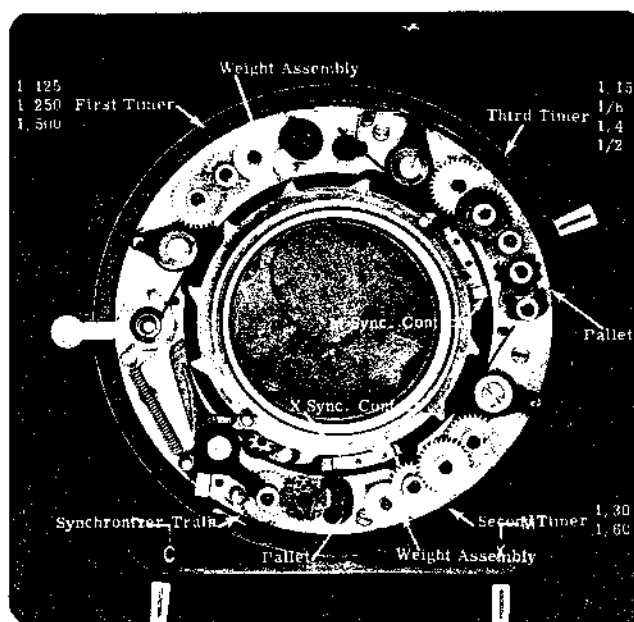

Figure 19.
1. If tests indicate shutter speeds are out of tolerance, adjust the appropriate timer or gear train (Figure 19) as follows:
2. If "M" synchronization is fast or slow, adjust the "M" synchronization contact assembly (Figure 19) as follows:
4. If "X" synchronization is fast or slow, adjust the "X" synchronization contact assembly (Figure 19) as follows: